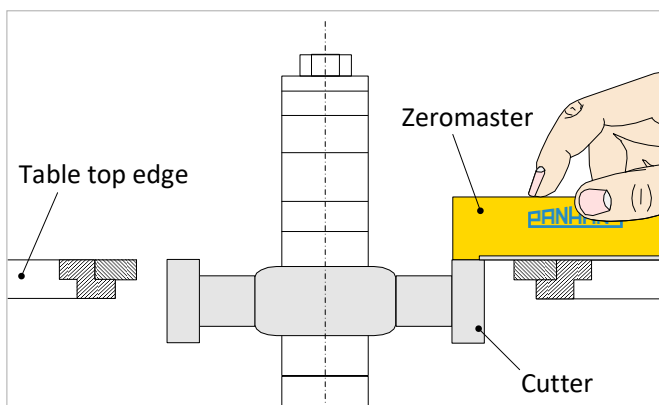

Figure 41: Calibrate tool height with Zeromaster
2. Place the Zeromaster on the table top (see ⇨ Figure 41). The rear part must rest on the table and the front part must protrude into the table opening.